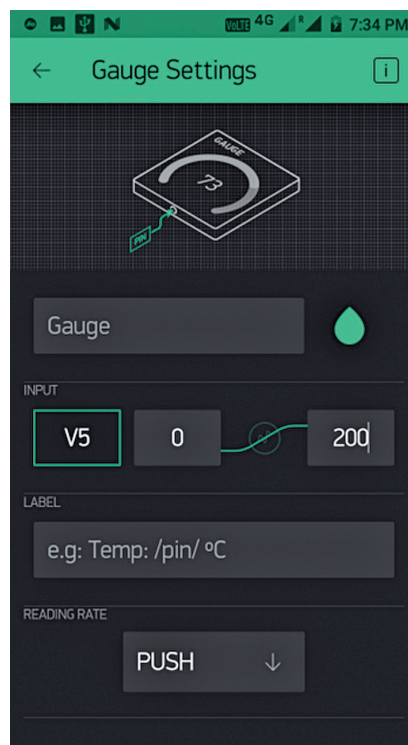

Fig. 2: Gauge settings on mobile screen
1. In the project space, select 'Widget Box' and select 'Gauge' under Displays. You will be directed to the gauge settings screen. Under Input, select virtual pin 'V5' (if you are selecting a different virtual pin, change it in the program as well) and change the variation from the default 1023 to 200. This will set the gauge level from 0 to 200, as shown in Fig. 2.